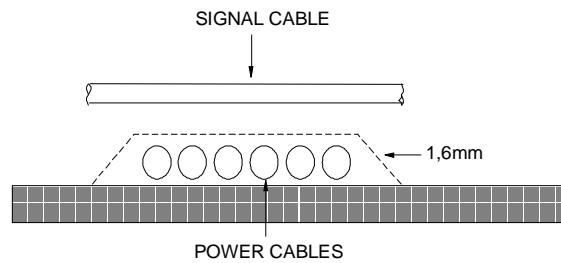

Fig. 9.11 - Right- angled Intersection between Power and Signal
- 3-Cross the signal and power cables as shown in figure 9.11.
Note: If unshielded cables are used, it is desirable to set an iron sheet of at least 1.6 mm thickness between the power and signal cables as indicated in figure 9.11.